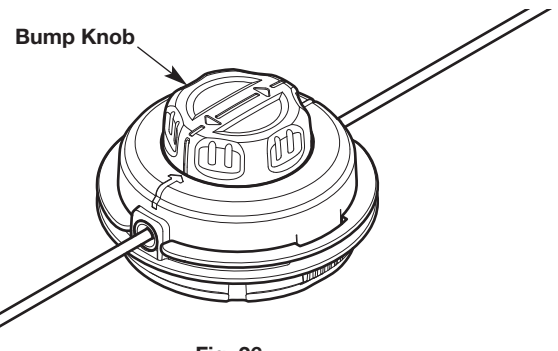

Fig. 26
- Turn the bump knob to wind the line until about 5 inches (12.5 cm) protrude from each side of the cutting head (Fig. 26).